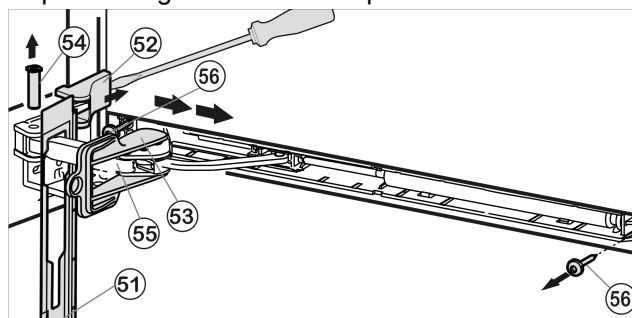

Fig. 19
► Push panel forward over the damper bracket *Fig. 19 (55)* in the direction of the appliance.
► Engage locking device *Fig. 19 (53)* into place inside oblong hole.
► Lift off cover *Fig. 19 (52)* from the outside using a screwdriver and remove by pulling outwards.
► Push bolt *Fig. 19 (54)* out from below.
► Press damper bracket *Fig. 19 (55)* in the direction of the door.
► Remove panel *Fig. 19 (51)*.
► Unscrew entire soft stop unit (2 x Torx 15) *Fig. 19 (56)*.